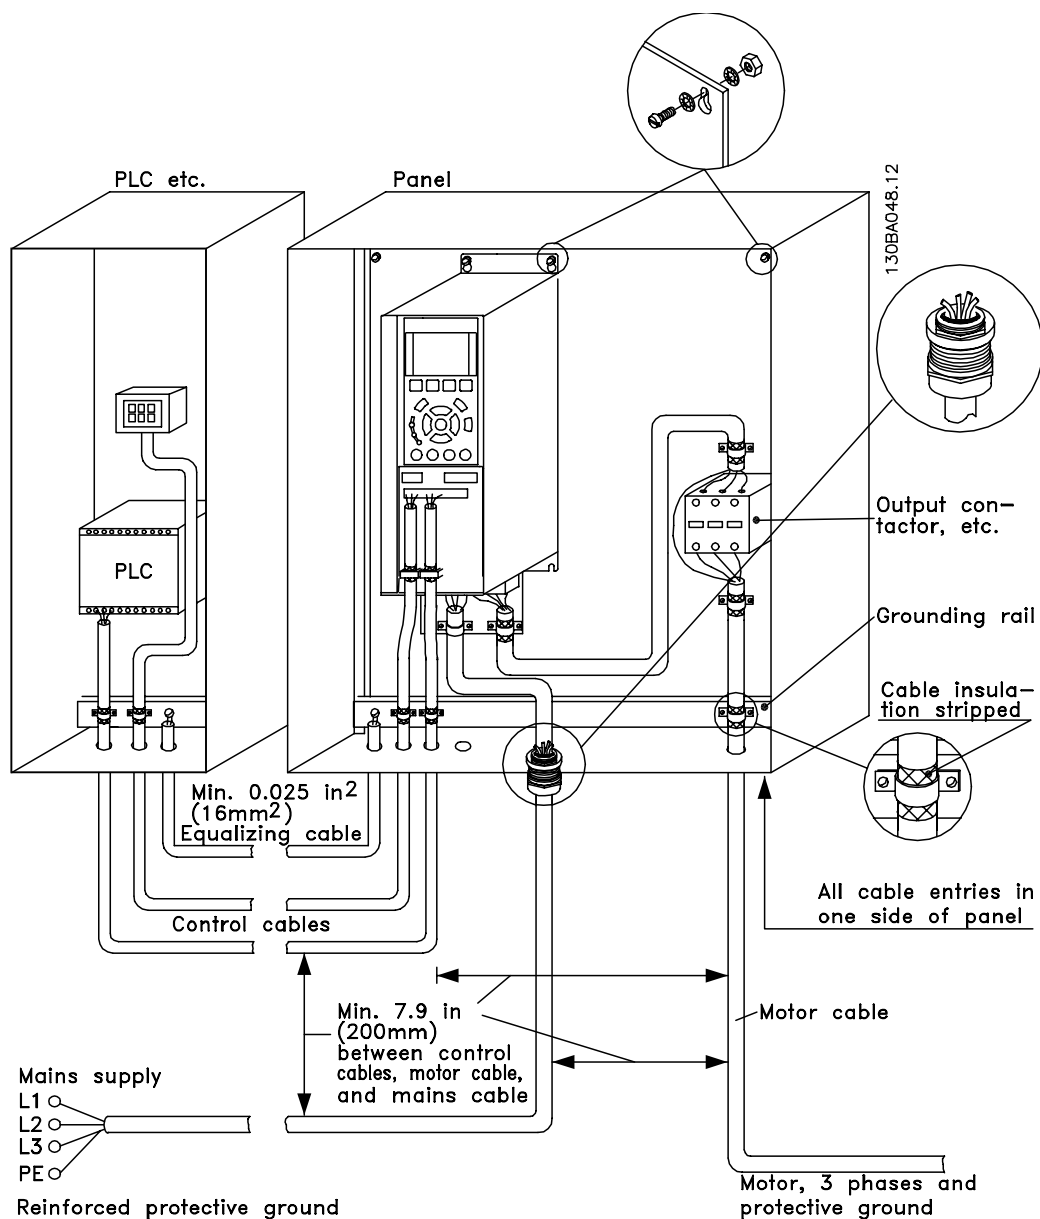

Figure 6.62 EMC-compatible Electrical Installation of an Adjustable Frequency Drive in Cabinet
*Figure 6.62* shows an example of an EMC-compatible electrical installation of an IP20 adjustable frequency drive. The adjustable frequency drive is fitted in an installation cabinet with an output contactor and connected to a PLC, which is installed in a separate cabinet. Other ways of performing the installation may result in an equally effective EMC performance, provided the above guidelines for engineering practice are followed.